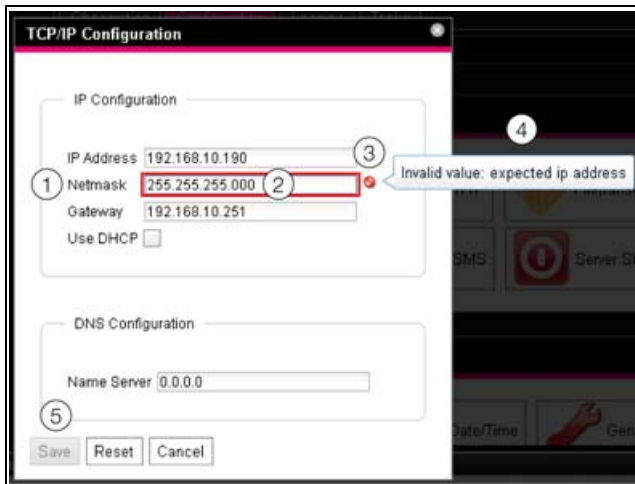

Fig. 96: Display of an incorrect entry
- A red "prohibited symbol" (fig. 96, item 3) appears after the incorrect entry (fig. 96, item 2) in the **Netmask** field (fig. 96, item 1)
- By holding the mouse pointer over the prohibited symbol, additional information about the error will appear (fig. 96, item 4).
- The **Save** button is deactivated (fig. 96, item 5), so that the current values cannot be saved.